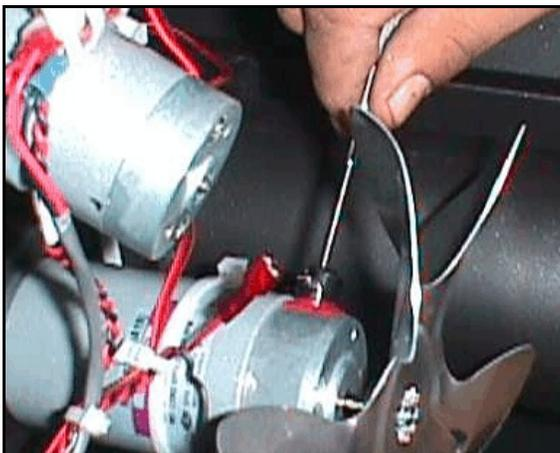

Figure 7
**Reinstalling the brush:** Insert the brush back into the holder. Hold the terminal tab into the holder. Carefully insert the cap and turn with a small flat bladed screw driver. *Use care not to cross thread the cap.* Once the cap is threaded lightly tighten against terminal tab (**Figure 7**).